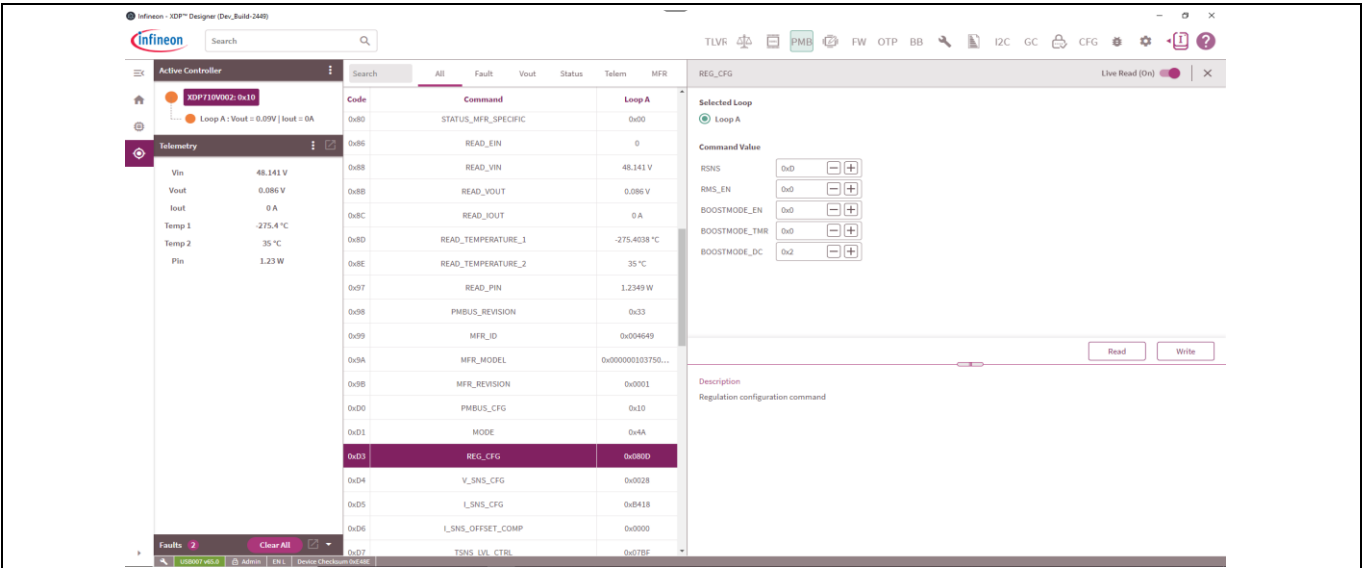

Figure 27  $R_{sns}$  selection
- The board has  $R_{sns}$  **1 m $\Omega$**  populated. To select this resistor, modify the  $R_{sns}$  bit to 0xD, and then click **Write** as shown in Figure 27.